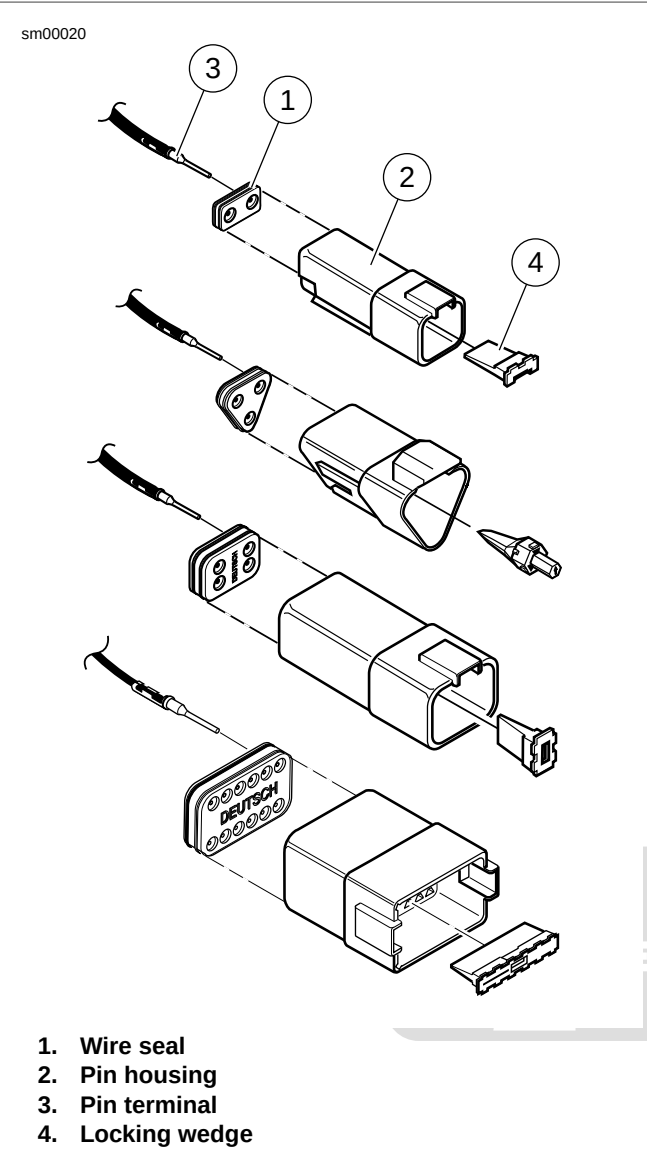

Figure A-20. Deutsch Connector: 2, 3, 4 and 12-Place Pin Housings
1. See Figure A-20. Fit wire seal (1) into back of pin housing (2).
2. Grasp wire lead approximately 1.0 in. (25.4 mm) behind the pin terminal (3). Gently push pin through holes in wire seal into its respective numbered chamber until it "clicks" in place.